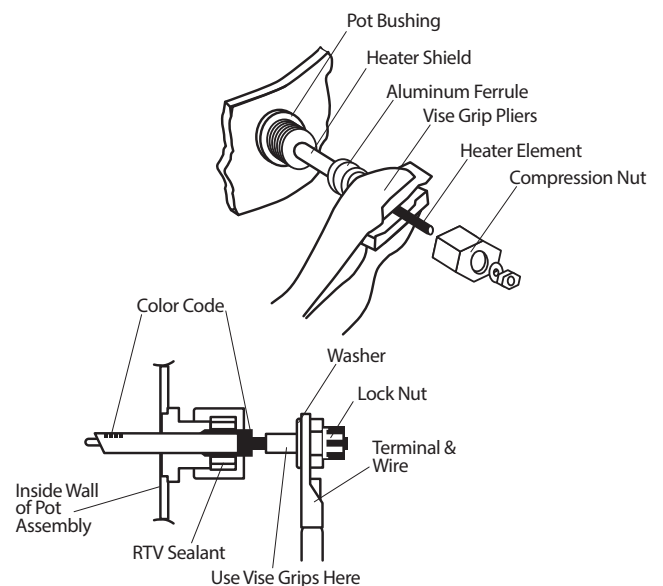

Figure 2
5. Utilizing extreme caution (so you do not break the heater ends), hold the heater behind the wire terminal with vise grips (see Figure 2). Remove the lock nut from the end of the heater. Mark the heater wire before removing to ensure proper connection to the new heater.
23. Using vise grip pliers, hold the heater terminal as shown in Figure 2 and carefully tighten the lock nut onto the heater end.